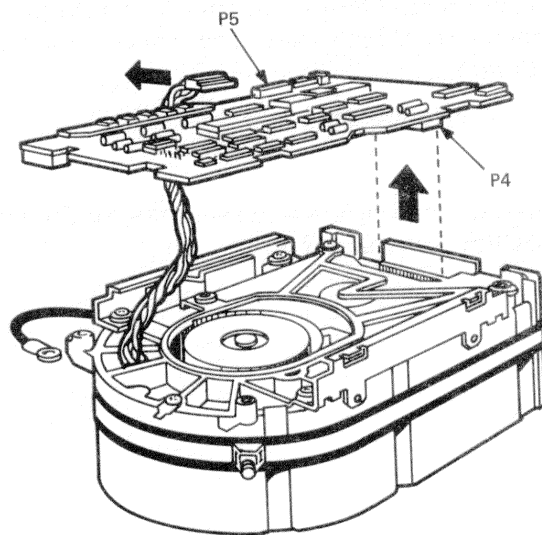

Figure 6-12 MPCB Removal
6. Lift the MPCB straight up until it clears the chassis. This disconnects P4, a 12-pin fixed plug. (Figure 6-12)